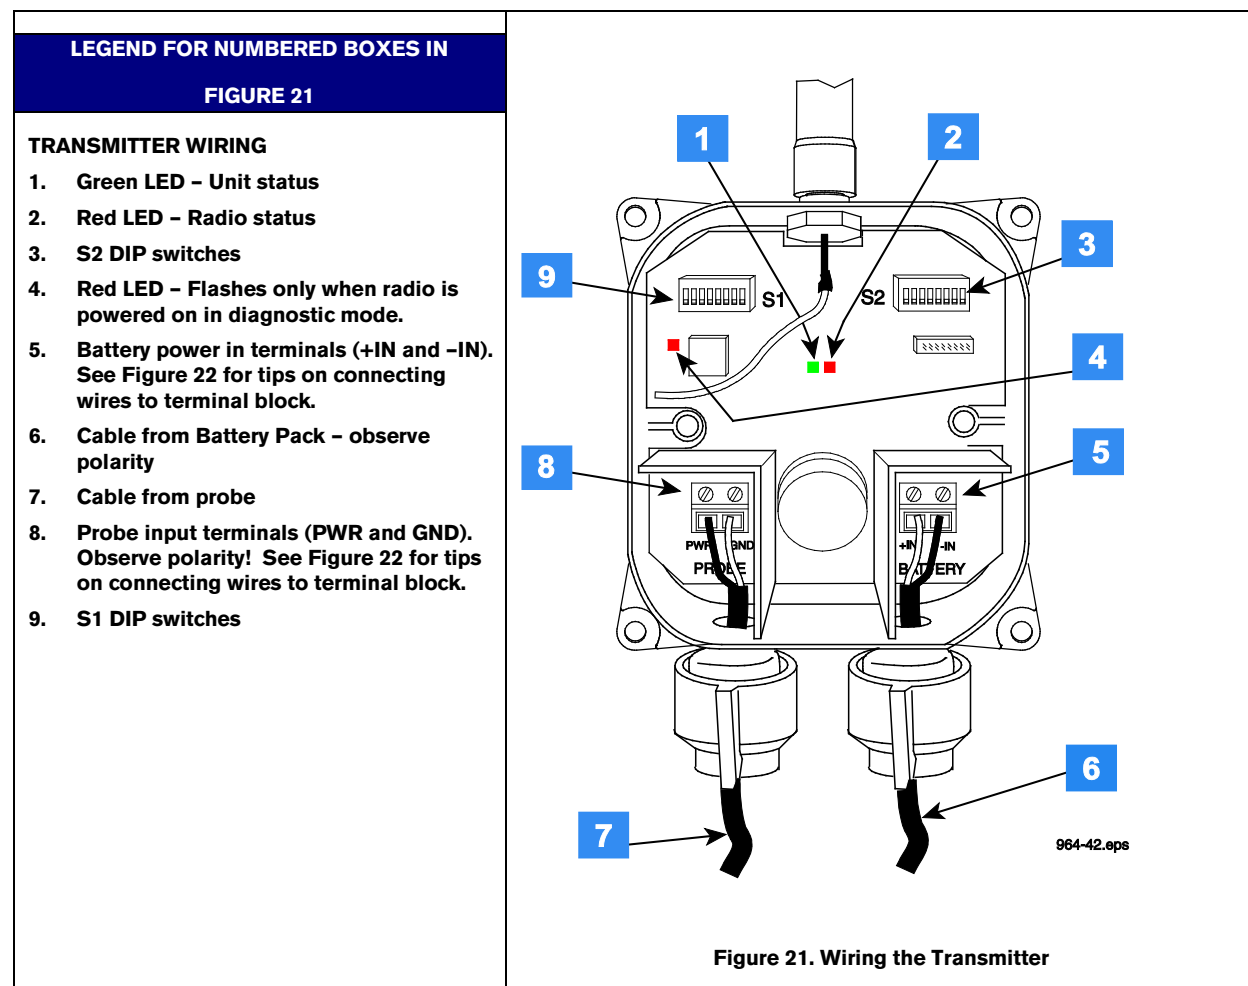
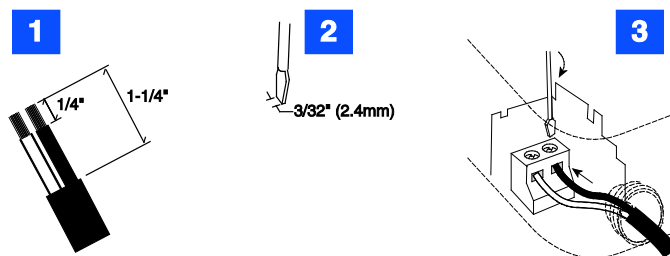

Figure 21. Wiring the Transmitter
Figure 22. Connecting wiring to transmitter terminal blocks.
11. Attach the Mag probe cable to the PROBE terminal block (white to PWR and black to GND) and the battery pack/dc power cable to the BATTERY terminal block (white to +IN and black to -IN) as shown in Figure 21 and Figure 22. Tighten cable entry cord grip nuts.
LEGEND FOR NUMBERED BOXES IN FIGURE 22
5. One of the pairs is for RS-485 communication (- & + terminals) and the other pair is for receiver power (+15 Vdc & Gnd). Using Figure 22 as a guide, attach the wires of the two twisted pairs to the RS-485 terminals.
- a. Go back to the transmitter and replace the sump lid, or if a dispenser, close the sump's access cover. Return to the TLS-RF and verify that the same LED continues to flash every 6 seconds. If yes, the receiver is continuing to communicate with the transmitter after the manhole cover or other obstruction was replaced. Go back to the same transmitter, remove the manhole cover and disconnect the power cable from the battery pack and continue to step 4. If the LED is not flashing every 6 seconds, the receiver is not picking up the transmitter's signal. Return to the transmitter and remove the obstruction. Referring to your Site Network Worksheet, verify that the correct Site ID is entered in the transmitter's S2 DIP switches 5-8 (item 3 in Figure 21 on page 23). Verify that the transmitter's antenna is oriented to the receiver as shown in Figure 19 on page 21, if it is move it around and recheck at the TLS-RF to see if the new position helps. Replace the obstruction and recheck the LED in the TLS-RF. If it is not flashing, try repositioning the transmitter lower on the conduit or ducting, then replace the obstruction and recheck the LED in the TLS-RF. If reorienting the antenna or lowering the transmitter doesn't help, make a note on your worksheet that the signal from this transmitter is not being received, disconnect the transmitter power cable at the battery pack, and continue to Step 4.
- b. Remove the cover of the problem transmitter. The green LED (item 1 in Figure 21 on page 23) should flash indicating that the probe is being read. The red LED (item 2) should also flash indicating the transmitter linked with the receiver and transmitted the probe's data. This green/red flash sequence should occur every 6 seconds while the transmitter is in continuous mode. If there is no green flash, check the probe cable's wiring connections. If the green LED flashes every 6 seconds, but the red LED doesn't flash, then the transmitter is reading the probe data, but for some reason is not linking with, and transmitting to the receiver. However, you will have to wait until you check additional transmitters before determining that the receiver is not functioning correctly. If the green LED is blinking quickly (about a tenth of a second) every 6 seconds, it can